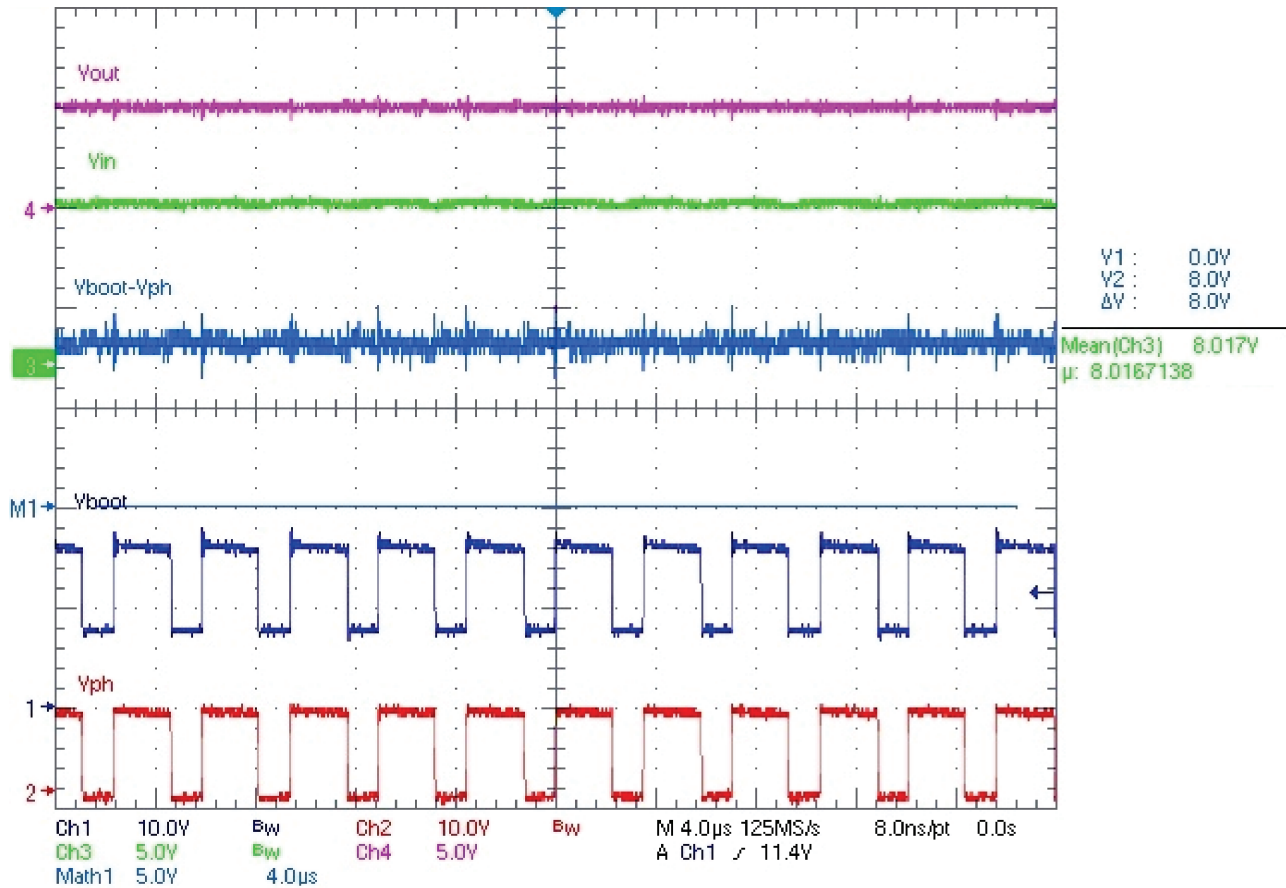

Figure 12. Operation Waveform of Solution (1)
Typically, the TPS54260 device regulates the BOOT voltage to 6.5 V for charging the BOOT capacitor as Figure 2 shows. If the input voltage is lower than 6.5 V, the charging voltage approximately equals the input voltage. Solutions (1), (2), and (3) introduce an external voltage on BOOT, so it could increase the charging voltage. The absolute maximum rating of BOOT-PH is 8 V. In solution (1), the BOOT voltage approximately equals the input voltage in the off state. As a result, if the input voltage is 8 V, the BOOT capacitor can be charged to 8 V. If the input voltage is higher than 8 V, the BOOT capacitor voltage is higher than 8 V and exceeds the absolute maximum rating. This limits the input voltage to 8-V max. Figure 12 shows this operation status of solution (1) when $V_{IN} = 8$ V, and the measured V_{BOOT} to V_{PH} is 8 V.
For solution (1), diode tied from input to BOOT, although it has lowest entry voltage and smallest hysteresis (Table 1 and Table 2), its maximum input voltage is only 8 V (Figure 12), which greatly limits its practicability.